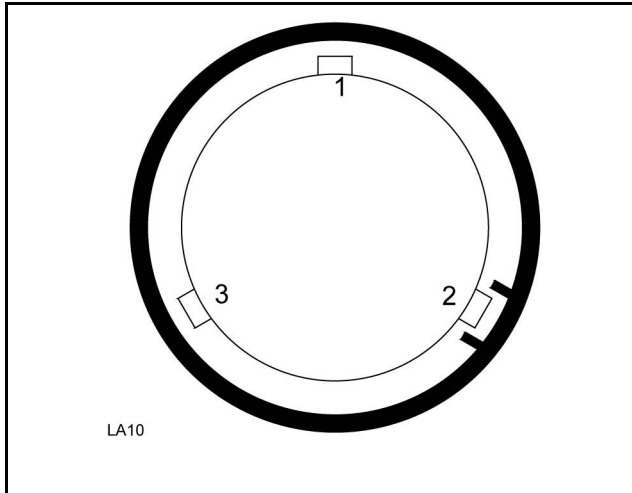

Figure 14. Second Section
3. Place the second section on the core with the drive pins on either side of tube 2. Make sure drive pins angle downward (Figure 14).